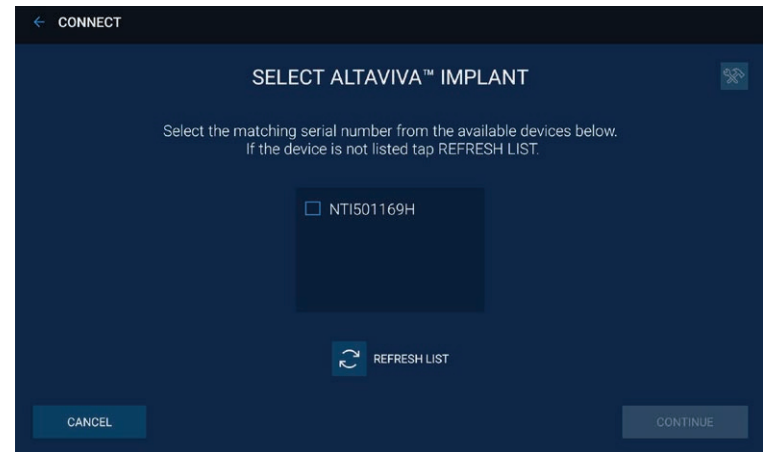

Figure 27. Select Altaviva Implant screen (serial number shown is for example only)
5. Select the appropriate INS according to the serial number (on the patient ID card or in patient records) and tap **CONTINUE** (Figure 27). If the neurostimulator serial number is not listed, tap **REFRESH LIST** (↻).